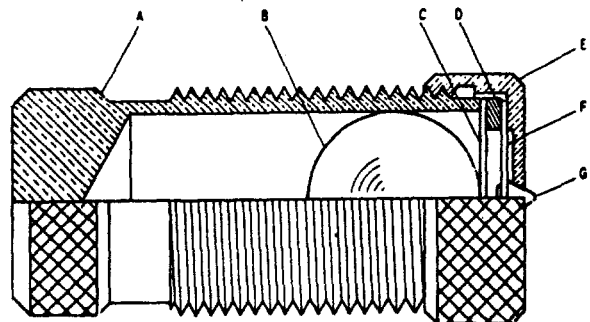

Fig. 5 (6077069-3) Stationary Contact Assembly
The contacts are silver-to-silver elements and are constructed with a non-bounce feature to insure a positive circuit closure. Fig. 5 shows the arrangement of the contact mechanism. The stationary contact (G) is mounted on a flat spiral spring (F) which is spaced from a thin diaphragm (C) by a washer (D). The cap (E) holds these in place on a slightly inclined tube (A) which contains a close fitting stainless steel ball (B). The energy of the moving contact is transferred to the spring and steel ball with the result that there is little or no rebound or vibration of the closing contacts.
Should it be necessary to change the stationary contact mounting spring (F) (Fig. 5), remove the contact barrel and sleeve as a complete unit after loosening the screw at the front of the contact block. Unscrew the cap (E). The contact and spring may then be removed.